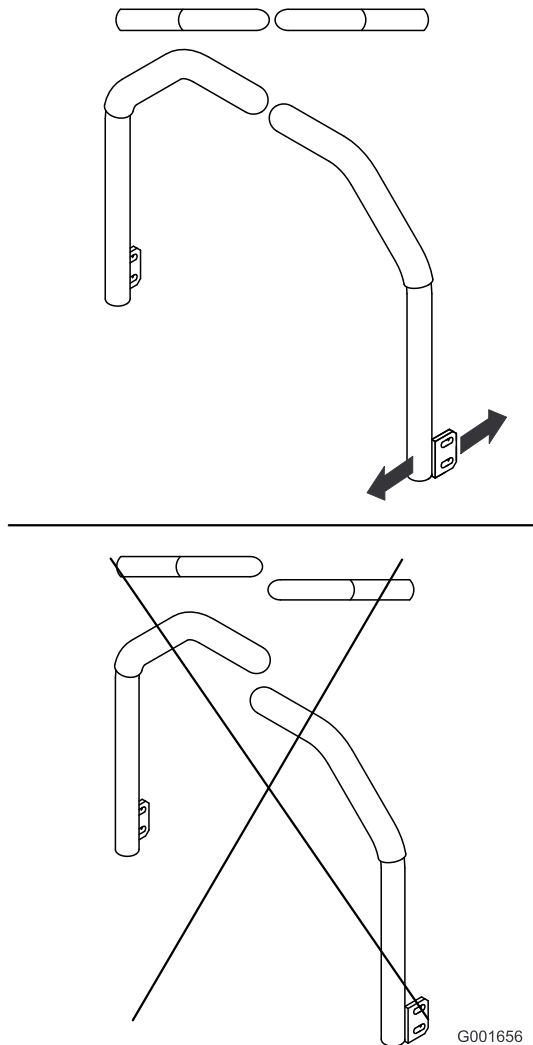

Figure 65
5. Adjust the control levers so that they line up (Figure 65) and tighten the bolts, securing the levers to the posts.